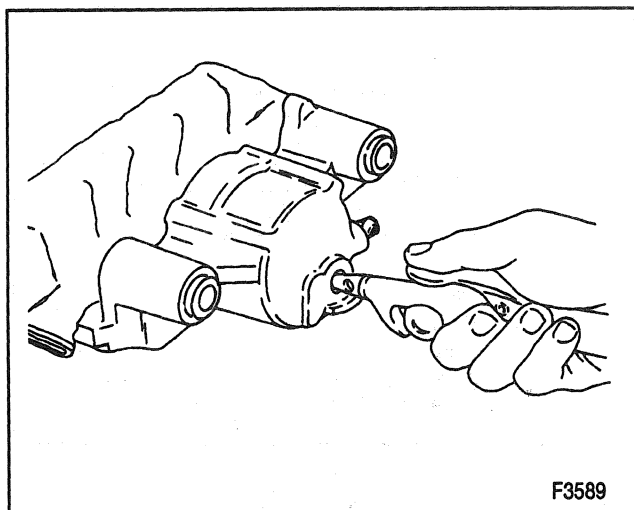

Figure 29—Removing the Piston
Remove or Disconnect (Figures 29 through 32)
3. Piston (9).
- Direct compressed air into caliper fluid inlet (Figure 29).